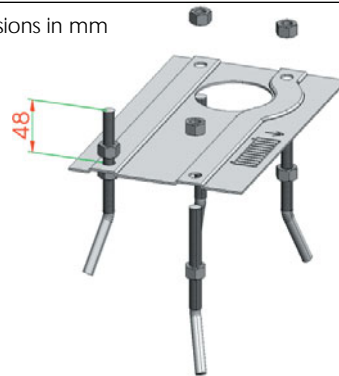

Fig. 4
1. Assemble the foundation plate as shown in Fig. 4.